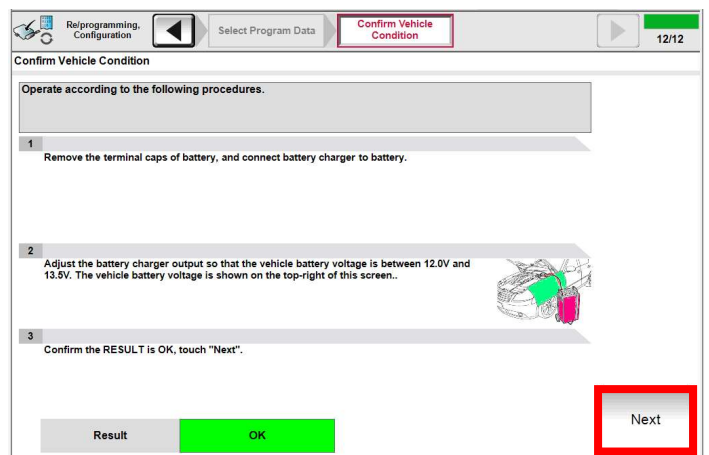

Figure 27
30. Follow the on screen instructions and select **Next**. (Figure 27)